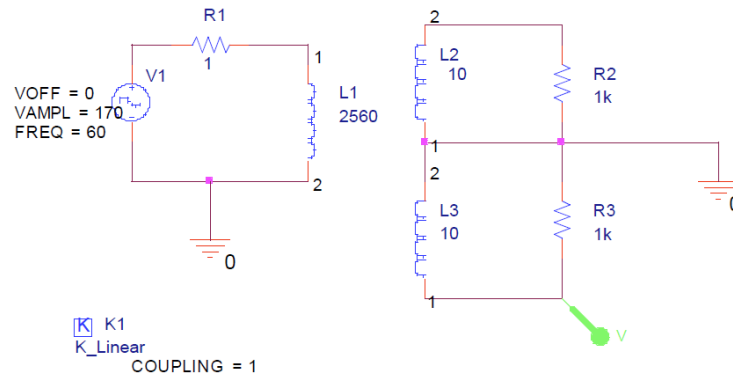

Figure 4.16
3. Add the additional components and wire as shown in Figure 4.16. Note that the 120V- rms sinusoidal input is applied with a 170V peak sine wave.